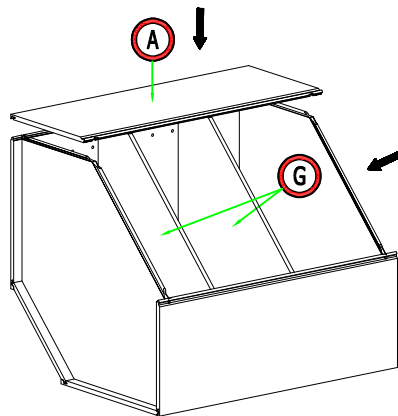

Figure 6
Press down until they click into place. (Figure 6)
6. Put the shelf (G) inside the cabinet and Installing the side panel (A): Insert the side panel (A) into grooves of side panel (B). Press down until they click into place. (Figure 6)